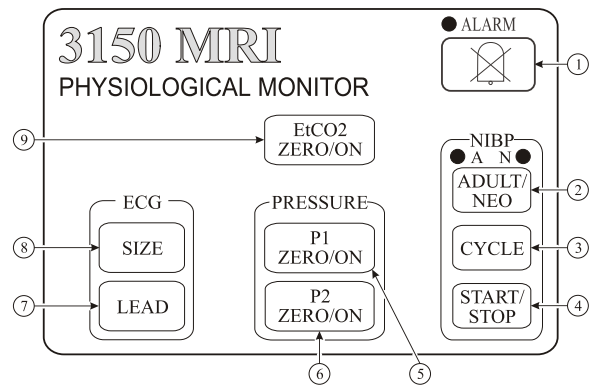

Figure 1-2. Control Panel
1.4.1 Control Panel. (See **Figure 1-2**) The **3150(M) MRI Monitor** control panel provides secondary control over some of the features of the monitor. The following is a description of the Control Keys.